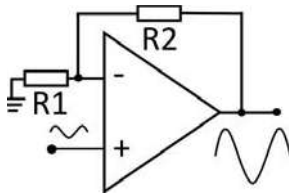

Figure 4. The non-Inverting amplifier.
3. The *non-inverting amplifier*, **Figure 4**, is used where the input and output need to be in phase. Again, the gain of the amplifier is determined by the ratio of  $R_2$  to  $R_1$  (but there's a formula involved!).